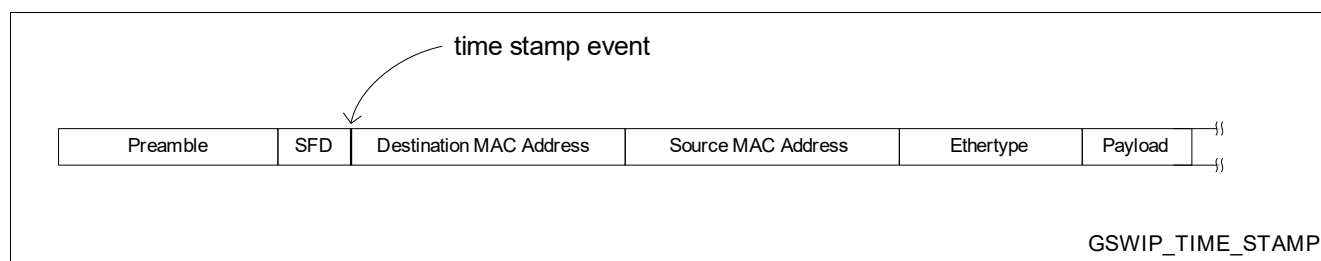

**Figure 47 Magic Packet Data Structure – Password Protection**
**Figure 47** shows the frame structure of a typical Layer-2 password-protected WoL frames.